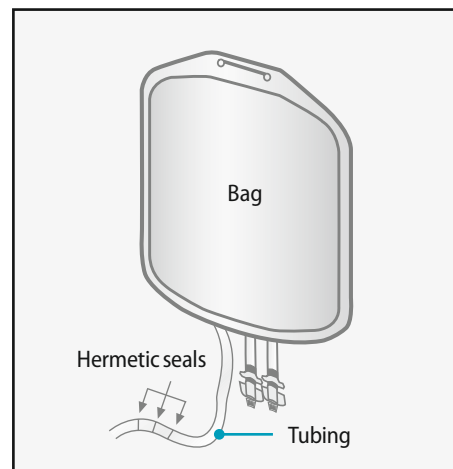

Figure 3.1: Sealing a bag. Use heat sealer to make the seal in the tubing. Sever at center seal.
6. Using the heat sealer, seal the tubing and separate, leaving at least 15 cm of tubing on the Cell Preparation Bag for further connections (see Figure 3.1).